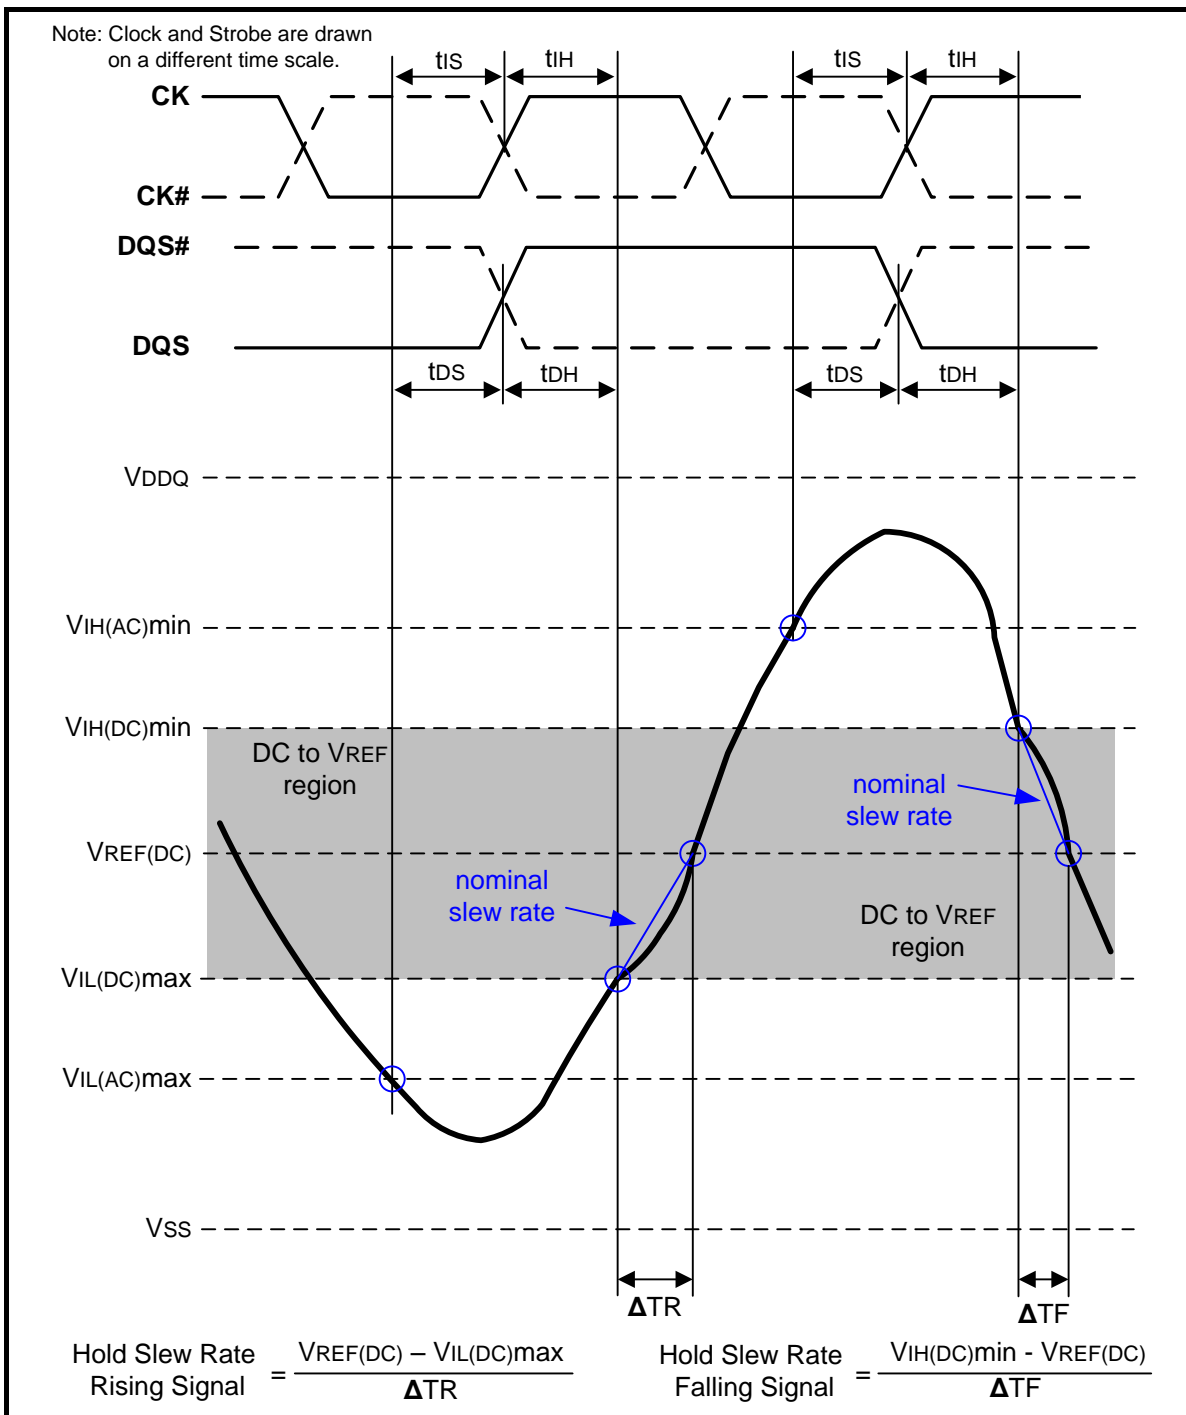
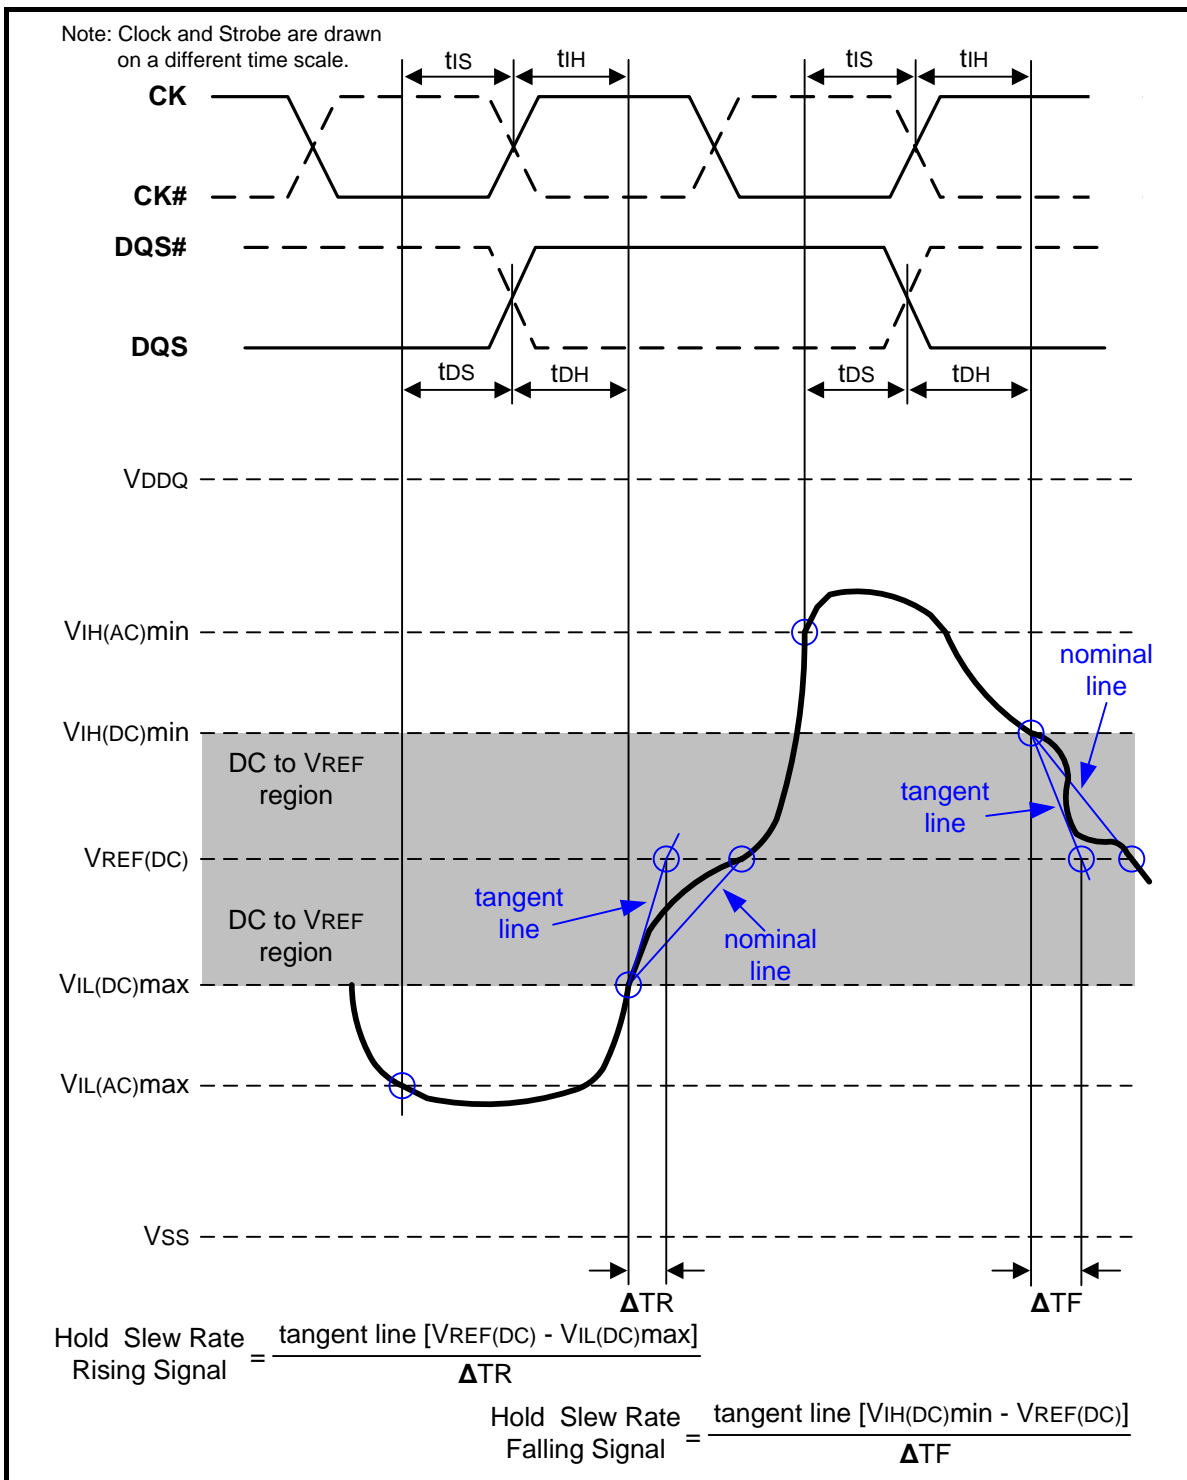

Figure 108 – Illustration of nominal slew rate for hold time t_{DH} (for DQ with respect to strobe) and t_{IH} (for ADD/CMD with respect to clock)
Figure 110 – Illustration of tangent line for for hold time t_{DH} (for DQ with respect to strobe) and t_{IH} (for ADD/CMD with respect to clock)
Hold (t_{IH}) nominal slew rate for a rising signal is defined as the slew rate between the last crossing of $V_{IL}(\text{DC})_{\text{max}}$ and the first crossing of $V_{REF}(\text{DC})$. Hold (t_{IH}) nominal slew rate for a falling signal is defined as the slew rate between the last crossing of $V_{IH}(\text{DC})_{\text{min}}$ and the first crossing of $V_{REF}(\text{DC})$. If the actual signal is always later than the nominal slew rate line between shaded 'DC to VREF(DC) region', use nominal slew rate for derating value (see Figure 108). If the actual signal is earlier than the nominal slew rate line anywhere between shaded 'DC to VREF(DC) region', the slew rate of a tangent line to the actual signal from the DC level to $V_{REF}(\text{DC})$ level is used for derating value (see Figure 110).
Hold (tDH) nominal slew rate for a rising signal is defined as the slew rate between the last crossing of VIL(DC)max and the first crossing of VREF(DC). Hold (tDH) nominal slew rate for a falling signal is defined as the slew rate between the last crossing of VIH(DC)min and the first crossing of VREF(DC) (see Figure 108). If the actual signal is always later than the nominal slew rate line between shaded 'DC level to VREF(DC) region', use nominal slew rate for derating value. If the actual signal is earlier than the nominal slew rate line anywhere between shaded 'DC to VREF(DC) region', the slew rate of a tangent line to the actual signal from the DC level to VREF(DC) level is used for derating value (see Figure 110).